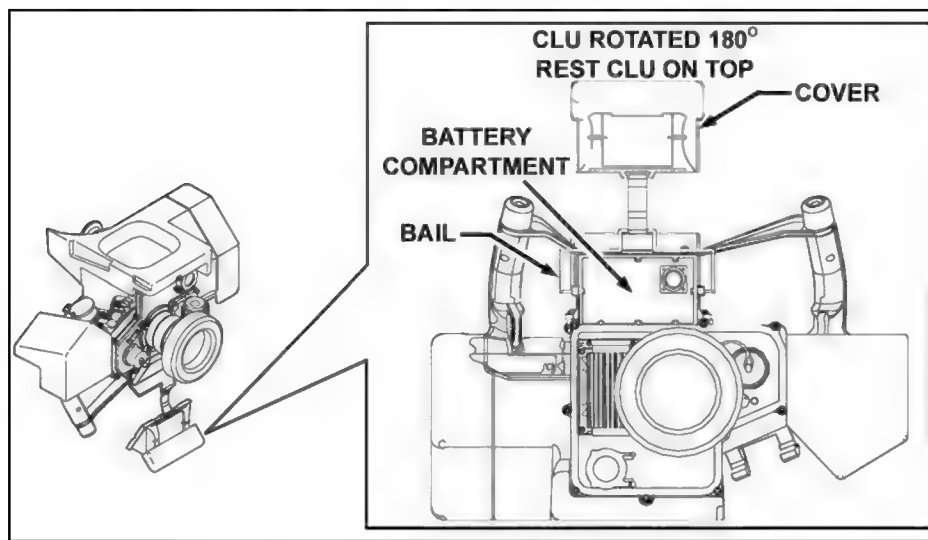

Figure 2-16. Battery compartment.
- (1) Open the carry bag.
- (2) Grasp the CLU by the handgrip and remove it from the carry bag.
c. **Install the CLU Battery.** The battery compartment is located on the bottom of the CLU. Take the CLU and turn it 180 degrees (Figure 2-16). The battery compartment cover is held in place by a wire bail. Detach and move the wire bail cover out of the way. The compartment is equipped with a battery connector. This connector mates with the corresponding connector on the battery. Align the two connectors and attach. Replace the battery compartment cover and reattach the wire bail.